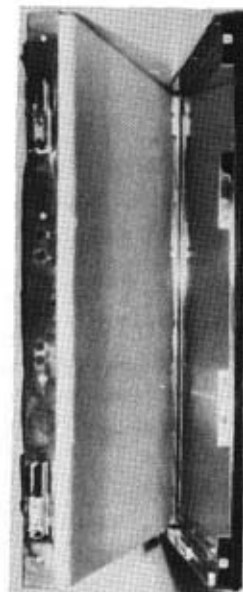

FIG. 17
4. Remove the eight (8) screws (CC16 models), 10 screws (CG15 and CB21 models), or 14 screws (CB53 models) securing inner door panel to outer door panel and remove insulation. Save screws and insulation for reuse (See Figure 17).